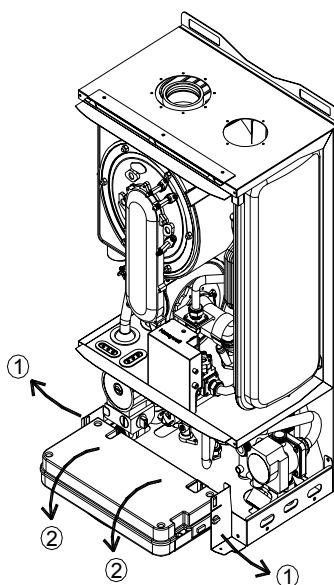

Fig. 5
- Grasp the left and right control panel support brackets (fig. 5) and pull them outwards, at the same time rotating the panel downwards.